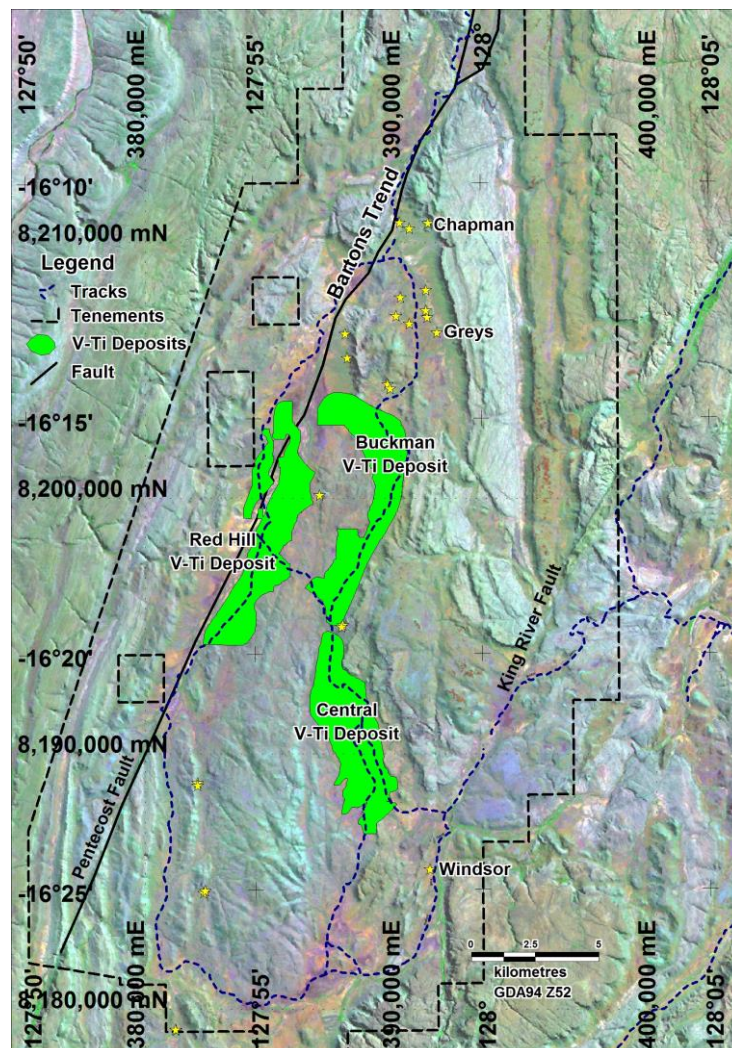

Figure 1: Speewah Dome V-Ti resources (green outlines) on a Landsat TM image.
- ❖ CSA Global Pty Ltd completed an updated resource estimate at Speewah reporting in accordance with the JORC Code (2012). The updated Measured, Indicated and Inferred Mineral Resource, reported at a 0.23% V₂O₅ cut-off grade from the Central, Buckman and Red Hill deposits (Figure 1), comprises 4,712 million tonnes at 0.3% V₂O₅, 2% Ti and 14.7% Fe (refer KRC ASX announcement 26 May 2017 for the full resource statement details).
- A 28.42kg sample of reverse circulation ("RC") drill assay pulps assaying 0.37% V₂O₅, 2% Ti and 14.8% Fe, has been selected from the high grade zone of the Central vanadium deposit at Speewah (Figure 1) for beneficiation and hydrometallurgical test work.